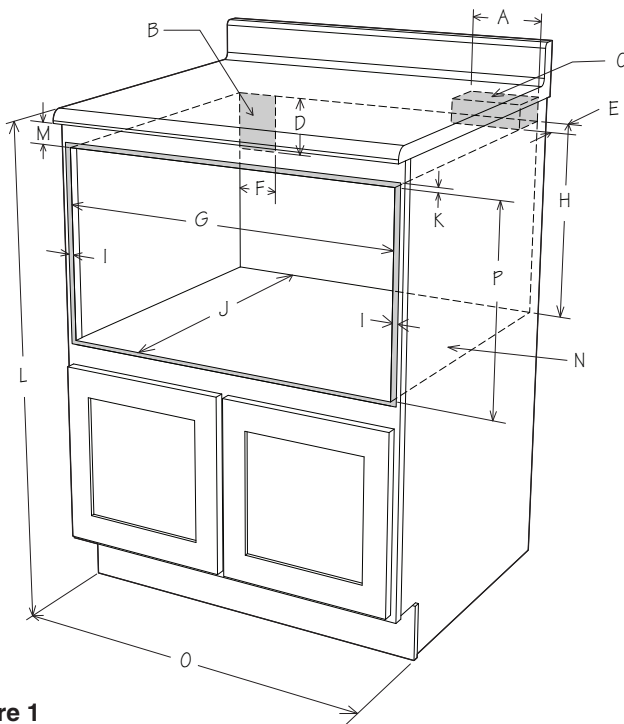

Figure 1
For **SAFETY CONSIDERATIONS** do not install drawer in any combustible cabinetry, which is not in accord with the stated clearances and dimensions on pages 2 - 5. See Figures 1 - 7.
- Dimensions that are shown in Figure 1 must be used. Given dimensions provide minimum clearance. Locate electrical outlet in the shaded area in the upper left-hand corner of the cutout. See Figure 9.
Figures 1 and 2 contain many Microwave Drawer measurements for reference when planning the drawer's location.
To reduce the risk of tipping of the drawer, the Anti-Tip block must be properly installed located 1413/16-inches above the floor on which the Microwave Drawer will sit. The 6-inch Anti-Tip block must be provided by the installer. See Figure 1. The Anti-Tip block prevents serious injury that might result from spilled hot liquids.